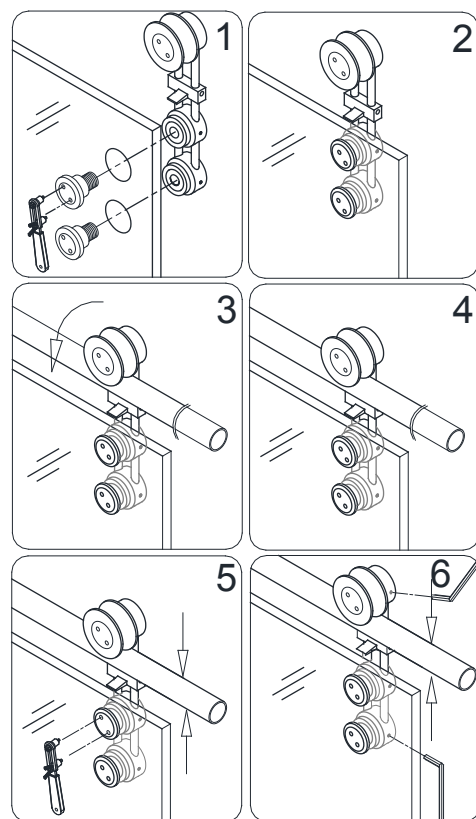
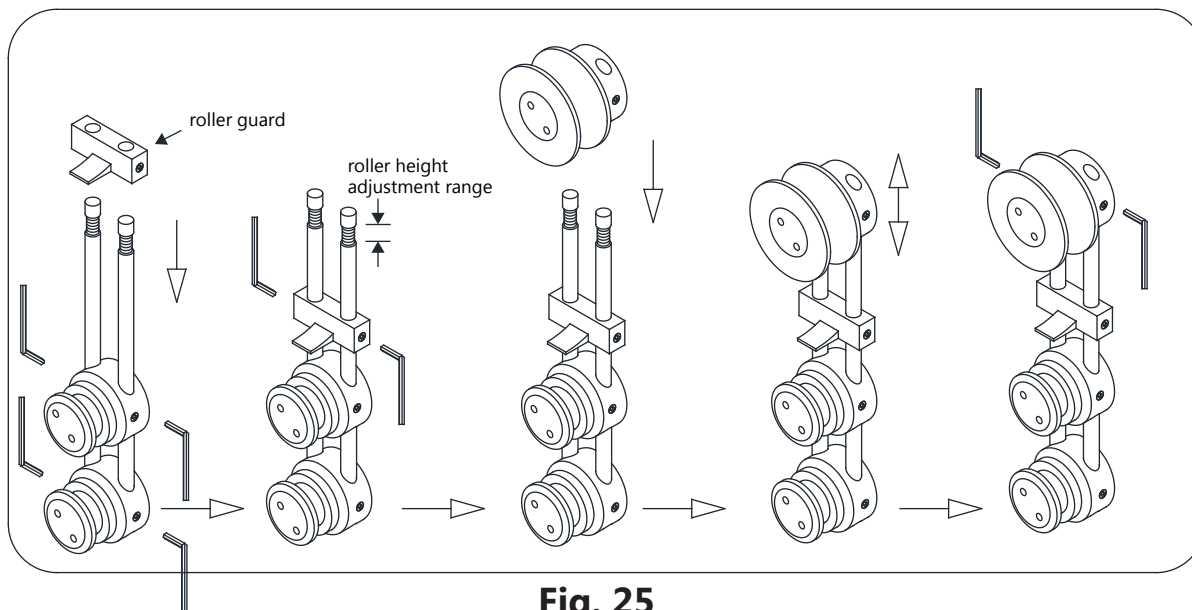

Fig. 24
Fig. 25
21. Use the **Roller Installation tool** to install the two **Roller assemblies (#04)** to the **Door Glass (#05)** (**Fig 18.1**). Suspend the door by hanging the **Roller assemblies (#04)** onto the **Upper guide rail (#03)** and sliding the bottom edge of the **Door Glass (#05)** into the groove of the **Guide block (#12)**. **Be careful not to damage the bottom edge of the door glass.** Adjust the door glass if necessary using the set screws on the rollers as shown below in **Fig. 24** and **Fig. 25**. After hanging the door, **the Roller Guards must be adjusted to within 1/16" of the Guide Rail (#03) to prevent the door from being removed.** Tighten all set screws.
See Fig. 24 and Fig. 25 for details